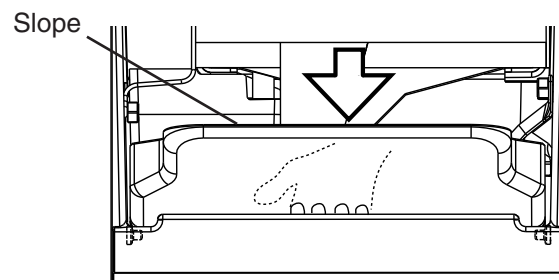

Fig. 49
17) Replace the slope in its correct position. See Fig. 49.